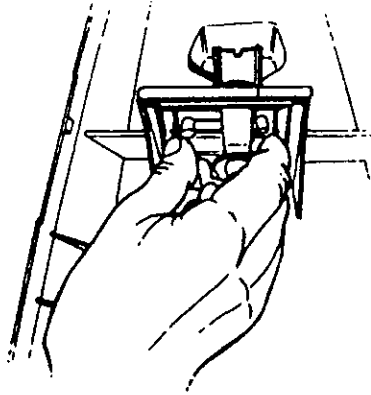

Fig. 25
1. Release two clips and remove from cradle in lower handle (Fig. 25)